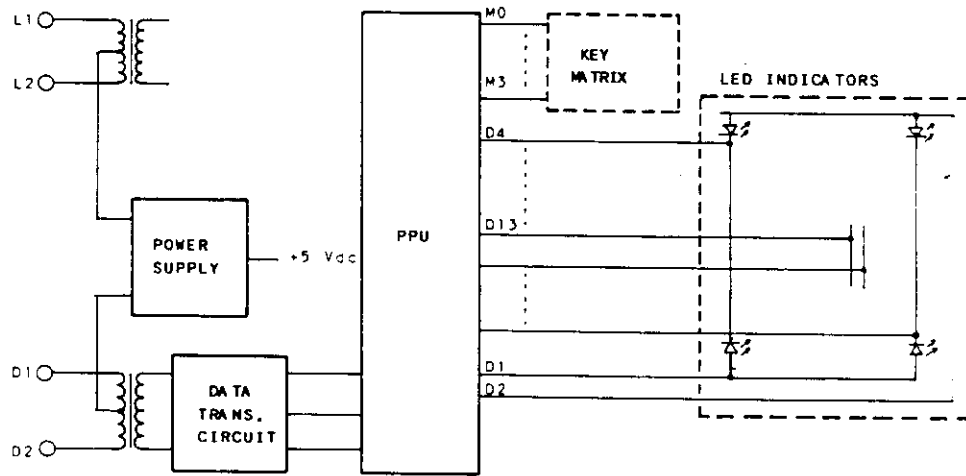

FIGURE 6-70 DSS-32C
3. **Speech Path:** Key telephone speech path circuit consists of a Speech Network LSI IC2 and the peripherals as shown in the Figure 6-70. The voice at T/R on the station modular jack (L1/L2 on the station KTEL-Z card) appears at IC2, through transformer ZT-4, and is separated into transmitter/receiver for the handset or microphone/speaker for the hands-free operation.